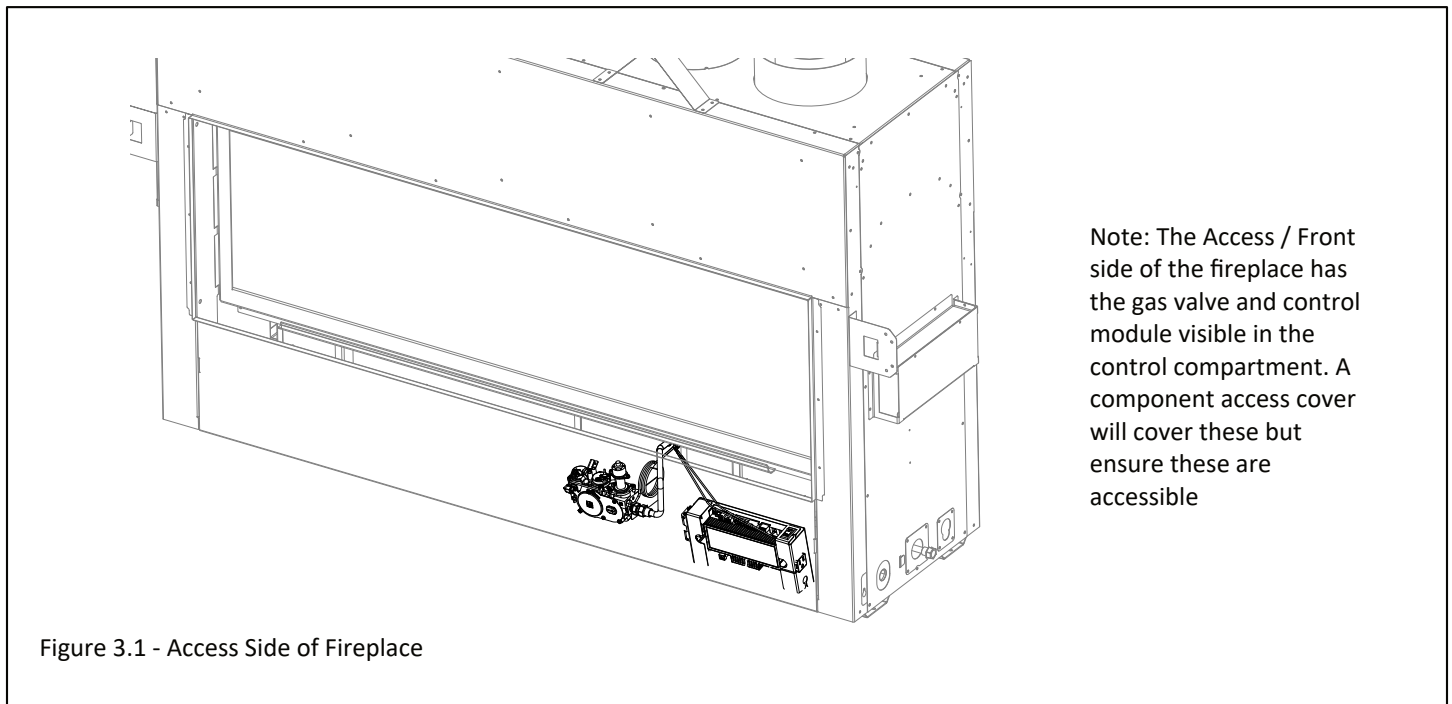

Figure 3.1 - Access Side of Fireplace
- This appliance has a front side and a back side. The front side is the access side of the fireplace, where the glass frame assembly is easily removable and the gas valve and control module are located. The back side is the fixed side of the fireplace where the glass frame assembly is fixed to the fireplace with flange nuts. Make sure to place the access/front side in an accessible location. See Figure 3.1.